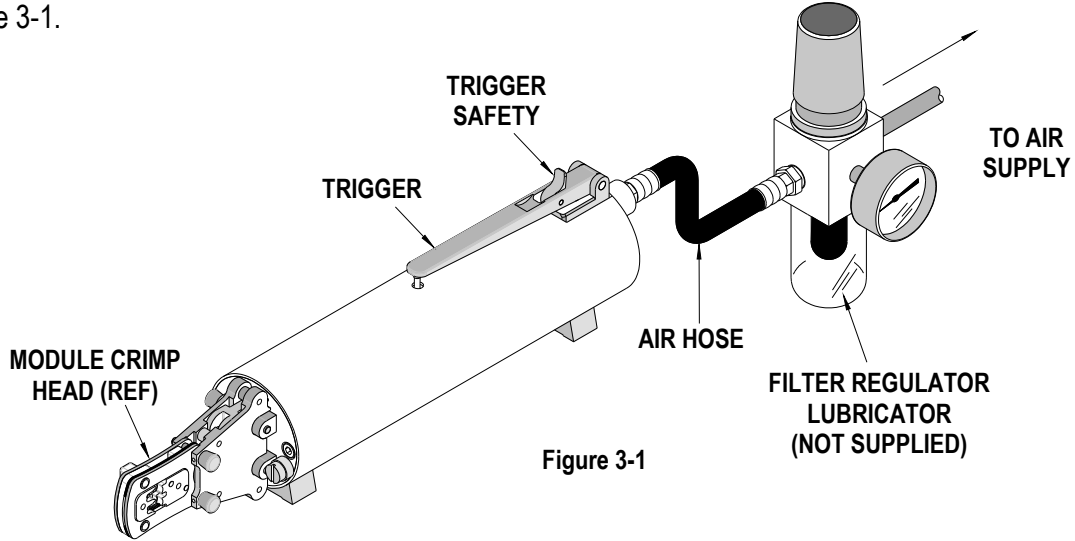

Figure 3-1
2. Connect an 8mm or 5/16" air hose to the fitting attached to the rear of the tool and to air supply 6 to 6.5 bar (87 to 94 psi). Do not exceed 8 bar (116 psi). **May cause injury or damage to the tool.** Air supply must be equipped with an air filter regulator (not supplied by Molex). (Available from any industrial supply co.). See Figure 3-1.